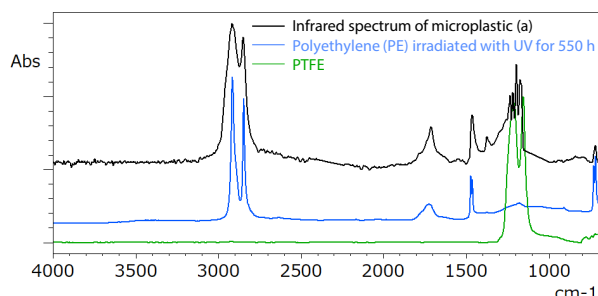
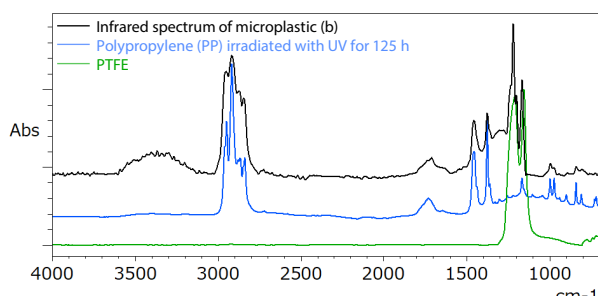

Fig. 3 Infrared Spectrum of Microplastic (a) Acquired by Mapping Analysis and Search Results
Fig. 4 Infrared Spectrum of Microplastic (b) Acquired by Mapping Analysis and Search Results
Fig. 3 and Fig. 4 show the two types of infrared spectra acquired from the mapping analysis and the results of a search using Shimadzu original database, the UV-Damaged Plastic Library. The absorption at around  $1200\text{ cm}^{-1}$  is due to the PTFE material of the filter paper.
From Fig. 3, Microplastic (a) was found to have a spectrum similar to that of polyethylene (PE) exposed to ultraviolet rays for 550 hours. From Fig. 4, Microplastic (b) was found to have a spectrum similar to that of polypropylene (PP) irradiated with ultraviolet light for 125 hours.